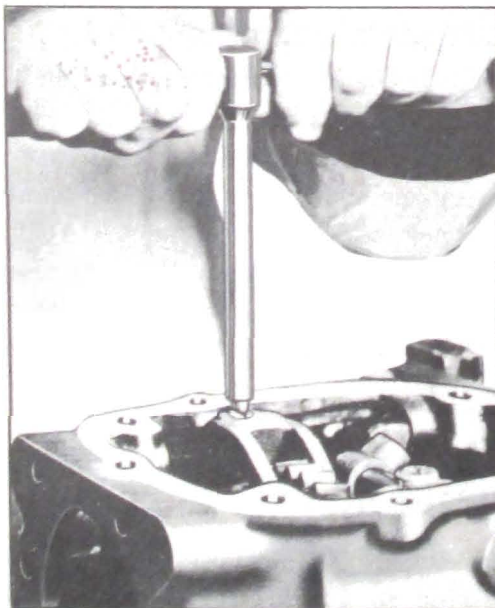
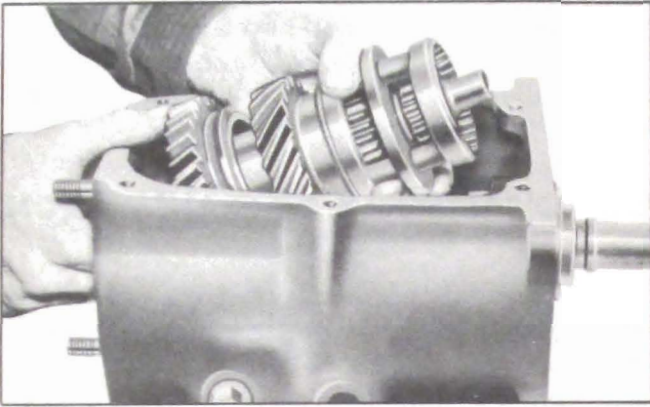

Figure 4-46—Removing Set Screw with Remover J2895
Figure 4-50—Removing Main Shaft Assembly
3. Remove the four set screws from shifter levers and shifter yokes, using Remover J 2895. See figure 4-46.
7. Remove shifter yoke set screws, using Remover J 2895 (shown in fig. 4-46), then lift the main shaft and assembled parts out through top of transmission case. See figure 4-50.